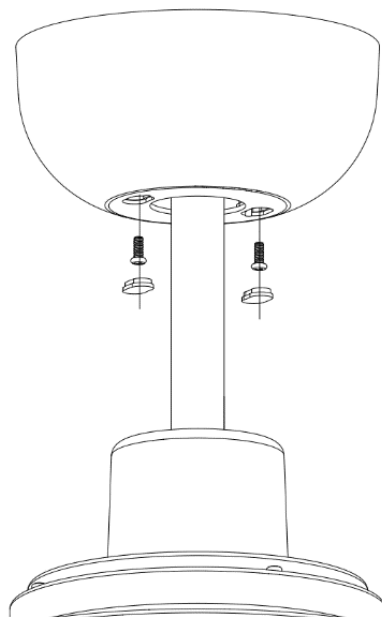

Fig. 8
**INSTALLATION OF THE CANOPY (Fig. 8)**